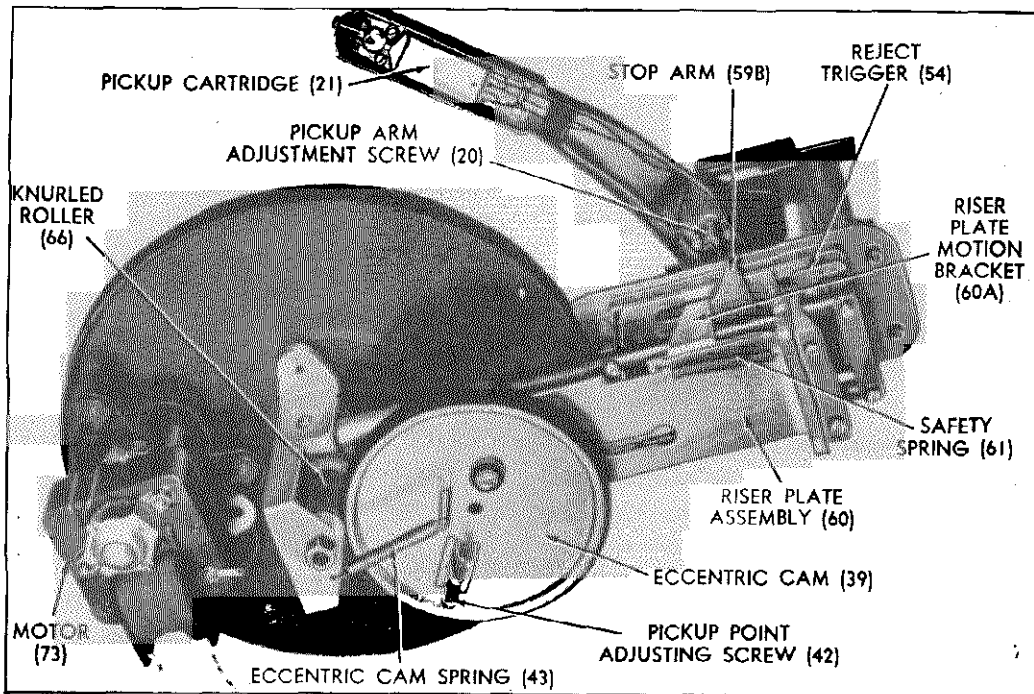

FIGURE 3. RECORD CHANGER, BOTTOM VIEW SHOWING LOCATION OF PARTS
(See Figures 3, 4, 6.)
6. PICKUP POINT (See Figure 3).
To vary the height of the pickup arm, adjust the knurled head adjusting screw (20) under the pickup arm (see figure 3). However, check and see if the needle ($\frac{3}{8}$ inch recommended) is set into the pickup cartridge as far as possible. The proper height of the needle, with the pickup arm hanging free, is $1/16$ inch below the top of the turntable.
- (a) Carefully remove the head assembly (7) as well as the upper lift rod and guide plate assembly (14) by taking out the two binder head screws (28) near the top of the die cast base (27).
- (b) Remove the pickup arm by prying the pivot spring (17) away from the pins on the lift guide assembly (26).
- (c) Press the reject button, and rotate turntable by hand in its normal direction until the riser plate assembly (60) underneath the changer (see figure 3) is moved to that point of its travel most distant from the centerpost. Rotate the turntable until the riser plate assembly goes back slightly (not over 1/32 inch).